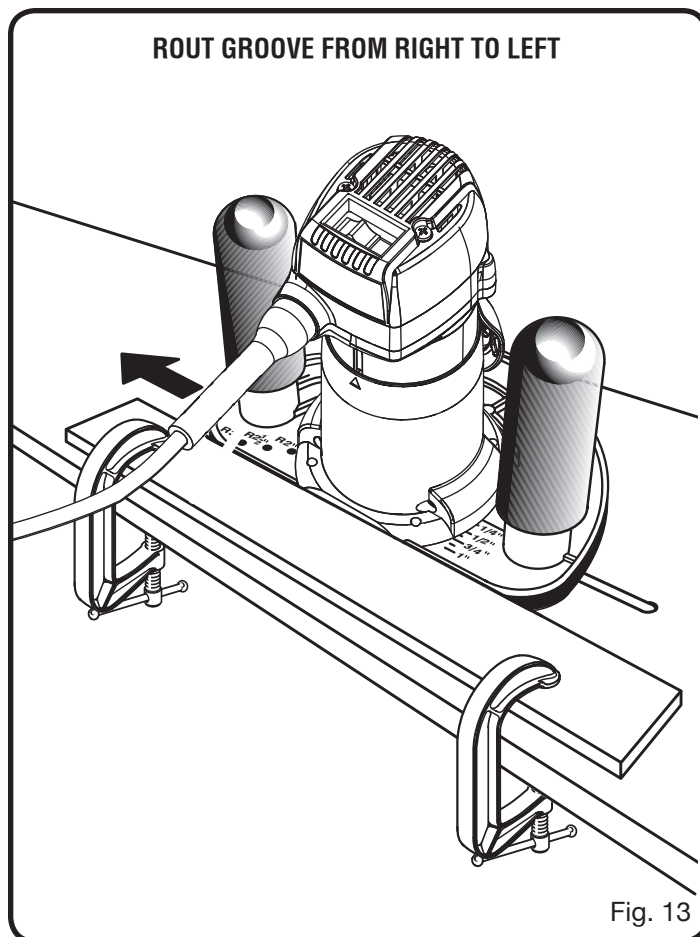

Fig. 13
See Figure 13.
- Using “C” clamps and a board to act as the straight edge, place the cutter at the desired position on the workpiece and make the cut from right to left as shown by the arrow in figure 13.